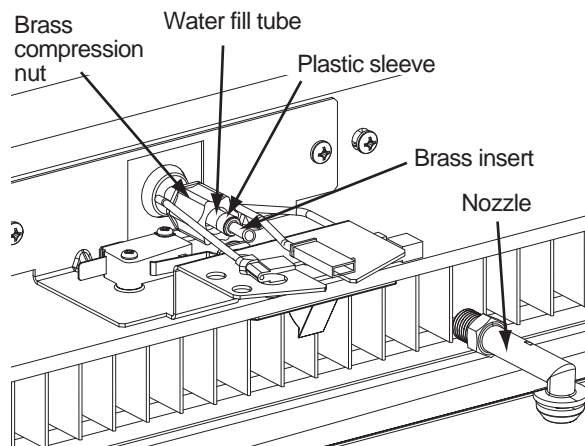

Figure 1. Dispenser assembly for units manufactured before October 19, 2004
For units manufactured prior to October 19, 2004 (see Figure 1), replace the old nozzle, brass nut, plastic sleeve, and brass insert with new nozzle (PN 626820) and plastic compression nut (PN 622991).
3. For earlier models, remove brass insert. See Figure 1.